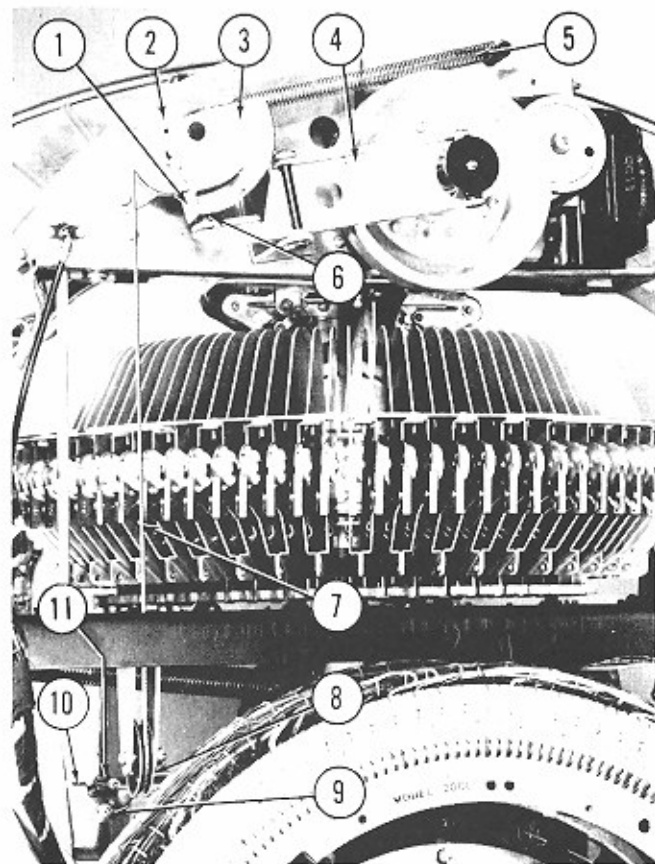

Fig. 86. ADJUSTMENT, ACTUATING ARM AND CABLE, TONE ARM AND TURNTABLE
ab. Actuating Arm and Cable, Tone Arm and Turntable. (Figs. 86 and 87)
The cable that operates both the tone arm and the turntable should be set to operate the turntable cam (Item 3, Fig. 86) through an arc of about 90° when the main cam moves from the "at rest" position to the play position. For installation of a new cable or re-adjustment of the turntable actuating linkage, proceed as follows:
(3) Take out the two screws and remove the stop plate (Item 1, Fig. 86).
(4) Rotate the turntable cam counter-clockwise to obtain enough slack in the cable to allow hooking the loop of the cable over the slide pin (Item 11, Fig. 86). The cable should be dressed around the guide pulley as shown in Fig. 86.
(5) The short end of the cable will be wound once around the drive pulley and the loop of the cable hooked to the tension spring (Item 5, Fig. 86) as shown.
(6) Place the roller of the turntable release lever back of the cam as shown at Item 6, Figure 86, and rotate the turntable cam back in a clockwise direction. Re-install and fasten the stop plate (Item 1).
(7) Turn the adjusting screw (Item 9, Fig. 86) to take up on the cable and position the turntable cam so that the roller of the turntable release lever is well onto the flat portion of the turntable cam.